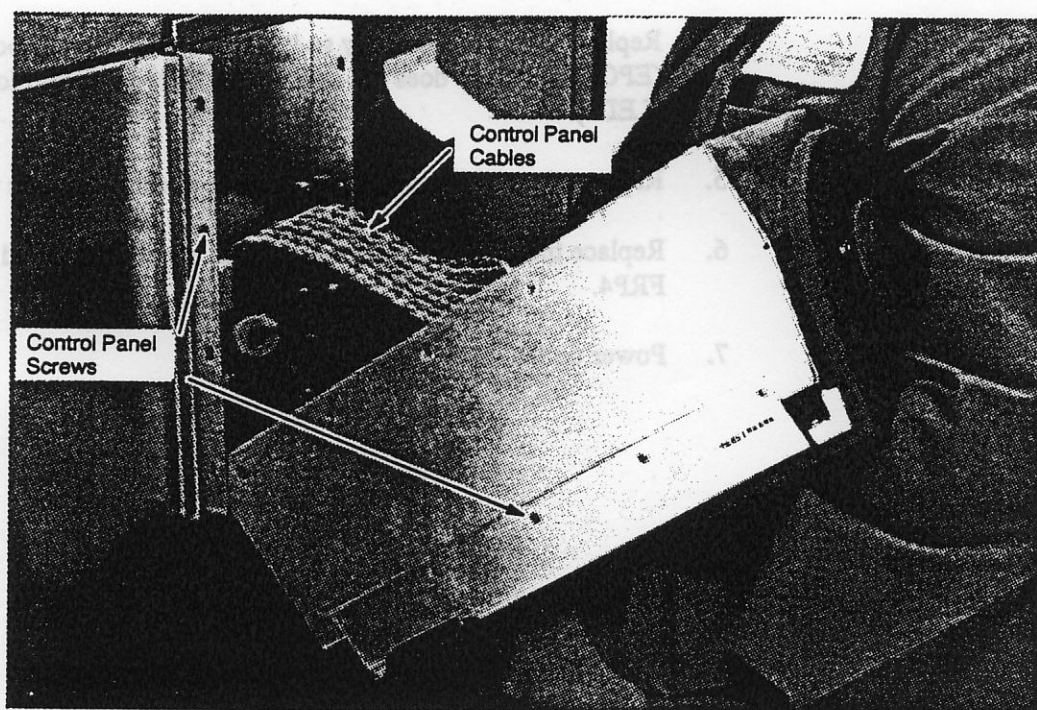

Figure 7-30. Control Panel Cables and Connectors
3. Remove the eight screws, four on each back side, from the control panel assembly. Hold on to the assembly as you remove the last screws, as it may fall. Refer to Figure 7-30.